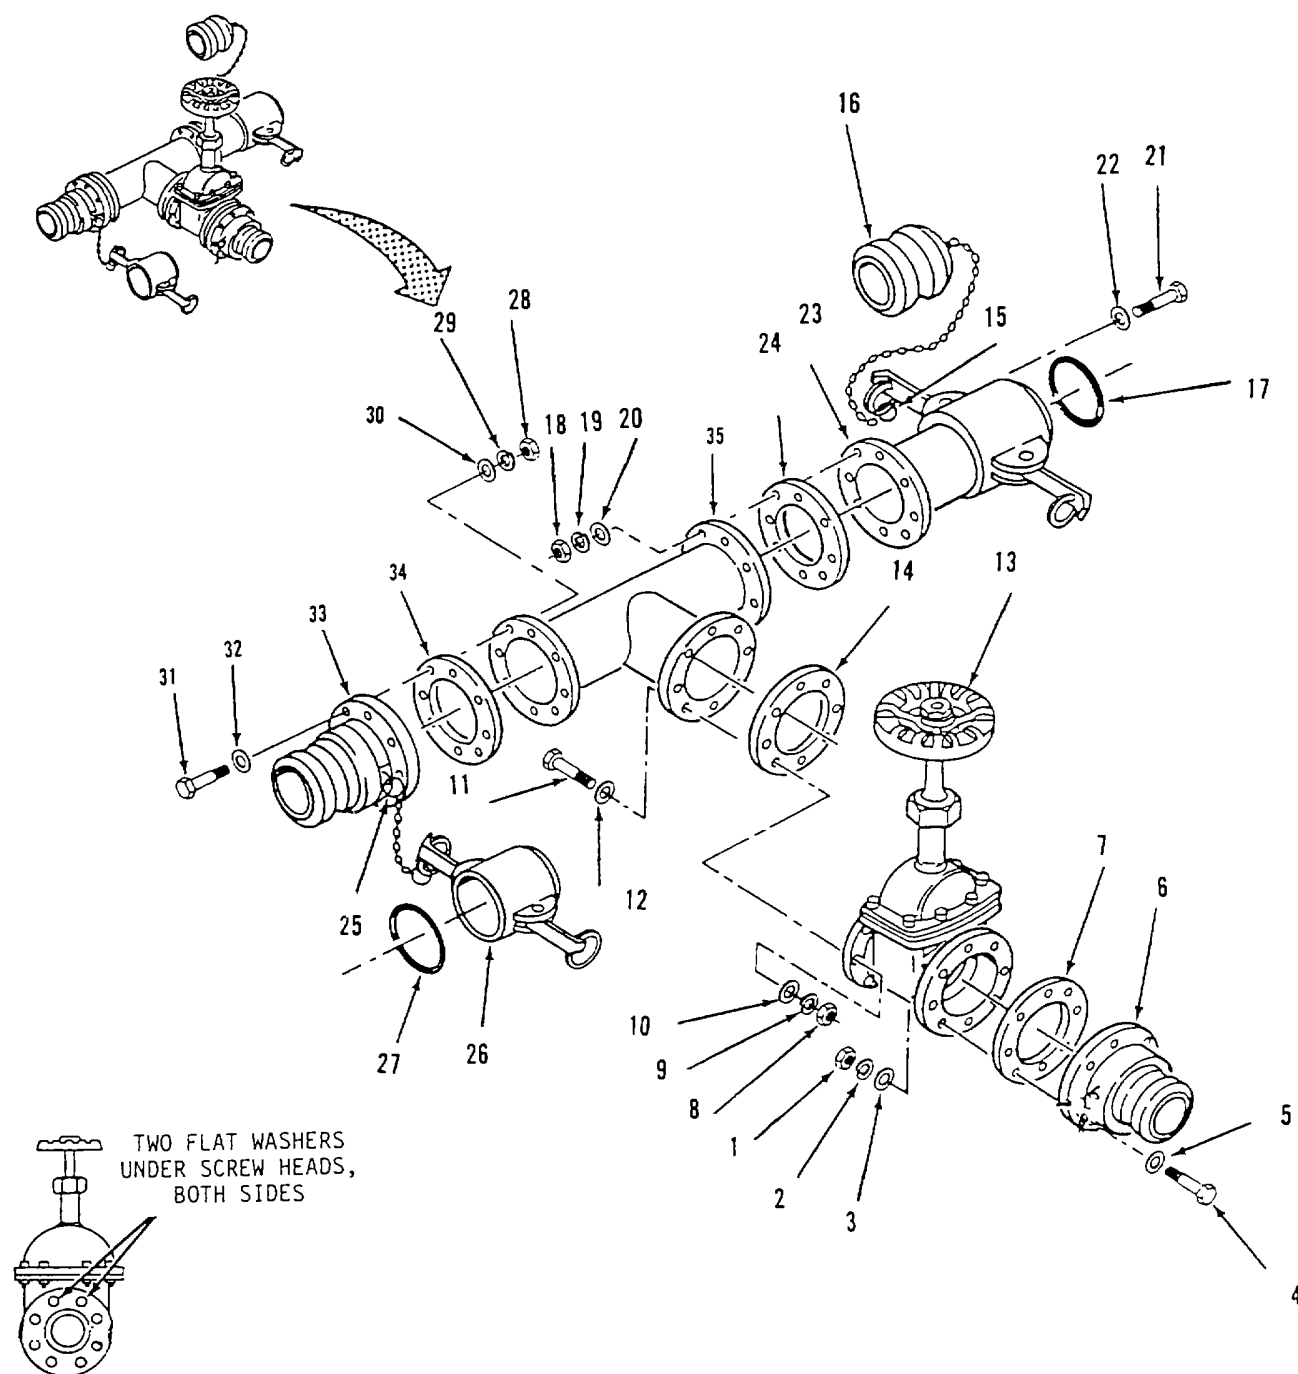

Figure 4-18.2. Tee and Gate Valve Assembly (9133-Y1) Assembly.
- (1) Refer to para. 4-31a (9) to repair gate valve.
- (2) Replace defective components. Do not reuse sealing components.
e. Assembly. Refer to figure 4-18.2.
- (1) Position gasket (34) and male coupling (33) on tee (35).
- (2) Install eight flat washers (32), screws (31), flat washers (30), lockwashers (29) and nuts (28).